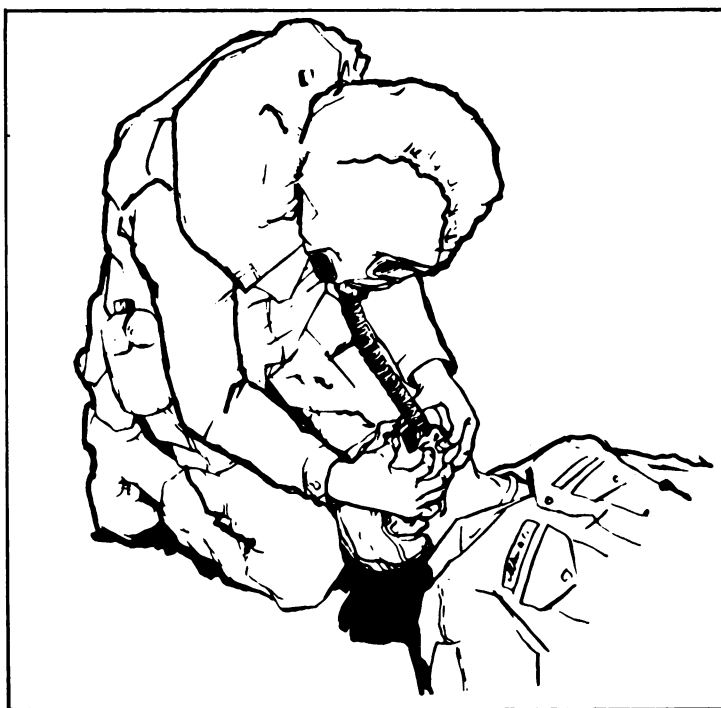

Figure 1.
4. Hold the mouthpiece in place by putting the thumb and index finger over the outside of the casualty's lips and hooking the remaining fingers under his chin (fig. 1).